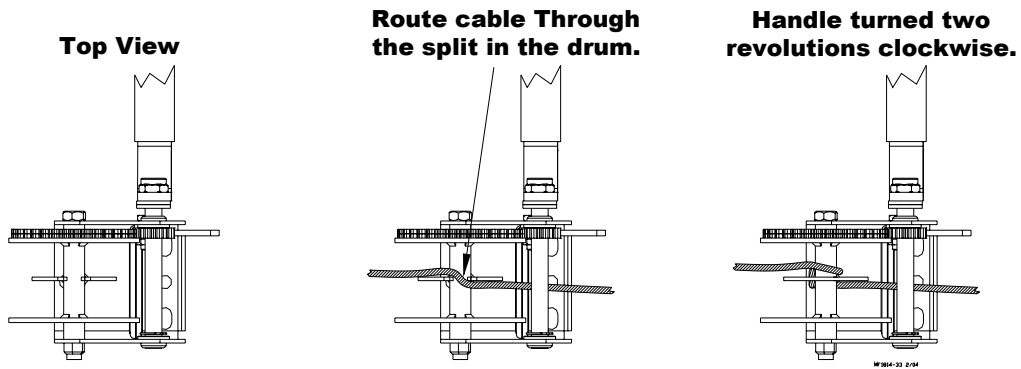

Figure 43. Winch cable wrap
3. Lay the cable through the split in the winch drum. Turn the winch handle clockwise two revolutions to wind some cable onto the winch drum, see figure 43.